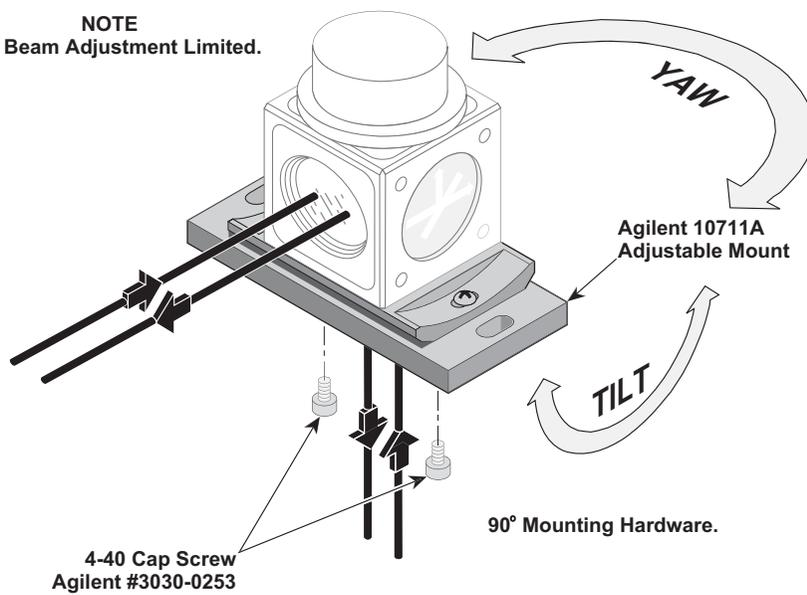

Figure 25 Vertical Plane Mounting Using the Agilent 10711A Adjustable Mount
- 4 Figure 25 shows how to mount certain linear, plane mirror, or differential interferometers in the vertical plane, using the Agilent 10711A Adjustable Mount.